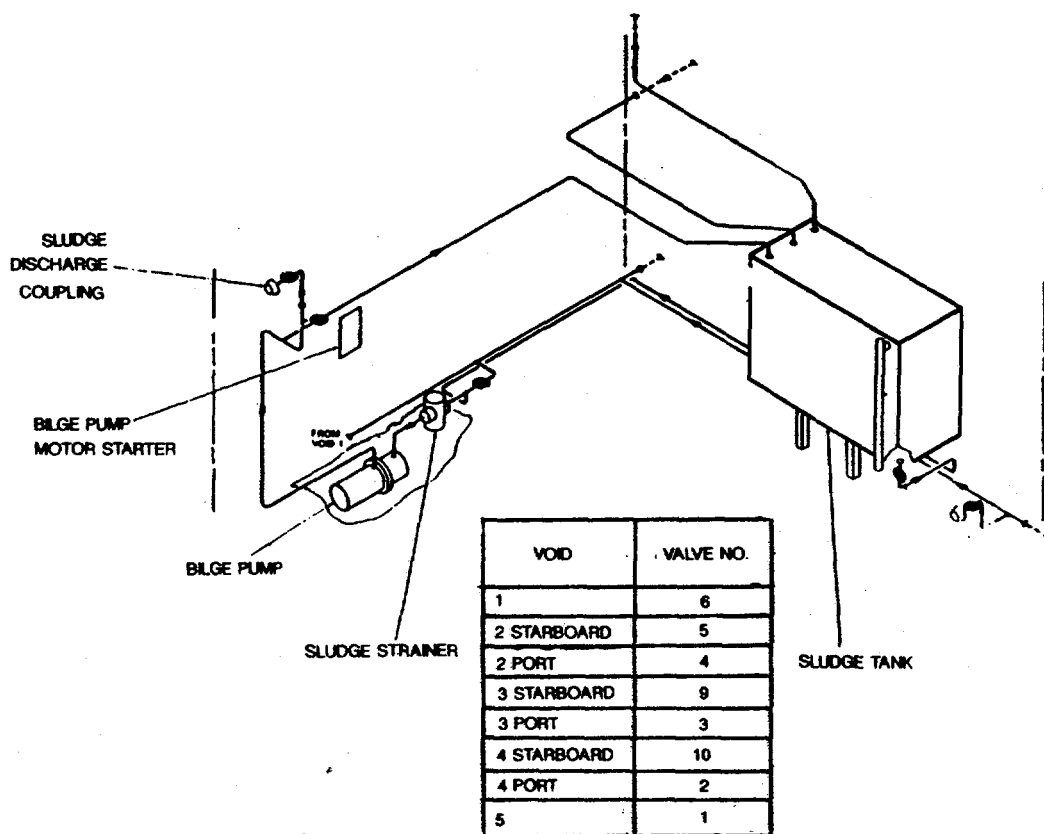

Figure 15-5. Bilge System
**15-3.4.2 Bilge System.** The bilge system, in the voids, collects and removes equipment waste from the barge and keeps the bilges dry. See Figure 15-5.